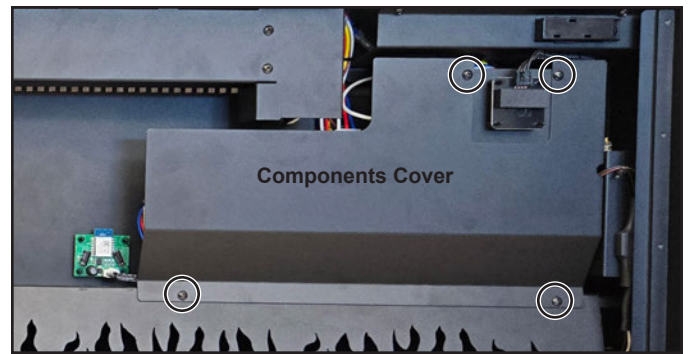

Figure 14 Internal Components Cover
3. Remove the screws attaching the internal components cover to the appliance. See Figure 14.